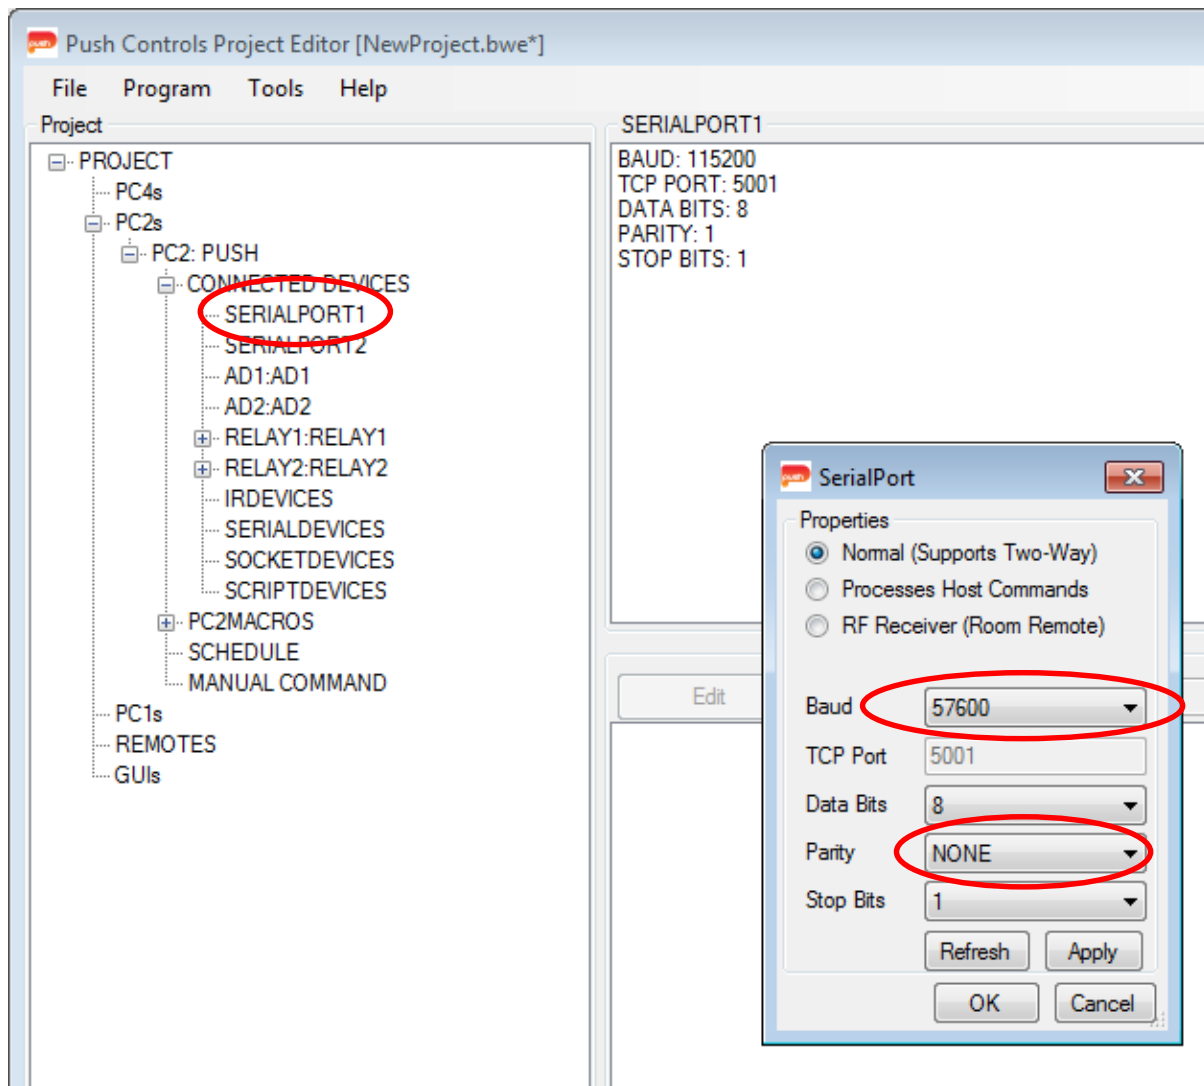

Figure 4 – Configuring the RS232 port on a PC2 or a PC1
- Select the PC1 or PC2 controller. *Refer to Figure 4.*